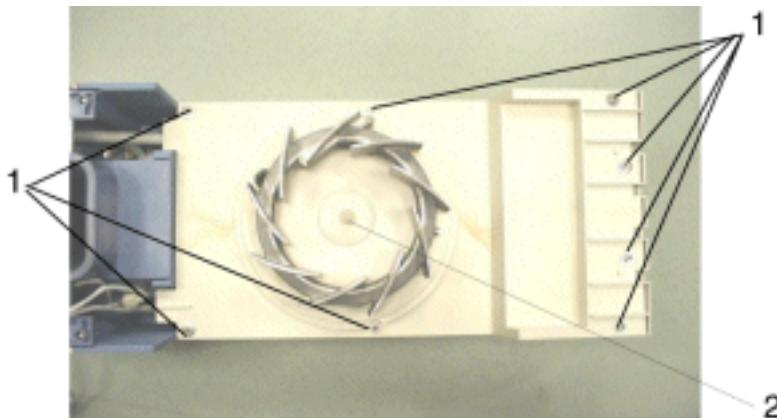

Fig.230 Front view of the air heater
4. Carefully remove rubber sleeve (2) from shaft of fan motor, see Fig. 230.
5. Remove screws and washers (1), see Fig. 230.